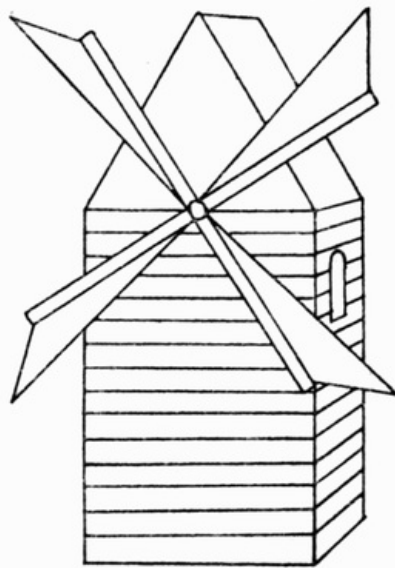

FIG. 96
**A Windmill** (Fig. 96). Prepare the inside of a match-box as described in the case of the sentry-box, and place it inside its cover, securing it with a little gum. Paste a piece of paper in front to hide the hollow. The sails of the windmill are made of brown paper, cut as in Fig. 97, and gummed to strips of cardboard which form the framework of the sails. The whole can then be fastened to the box by a paper-clip.